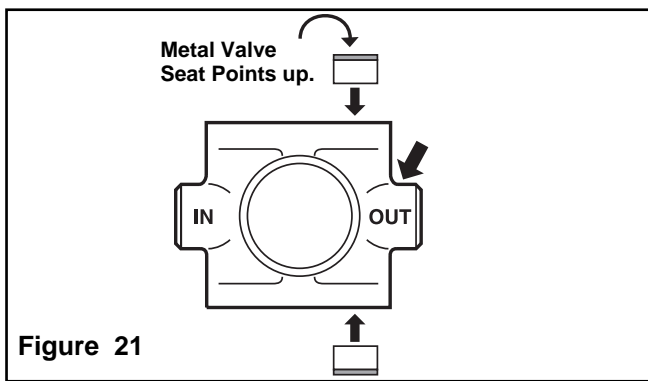

Figure 21
- Install the Valve Assemblies into the **OUTLET** side valve bores with the metal valve seat portion facing **UP** (See Figure 21).